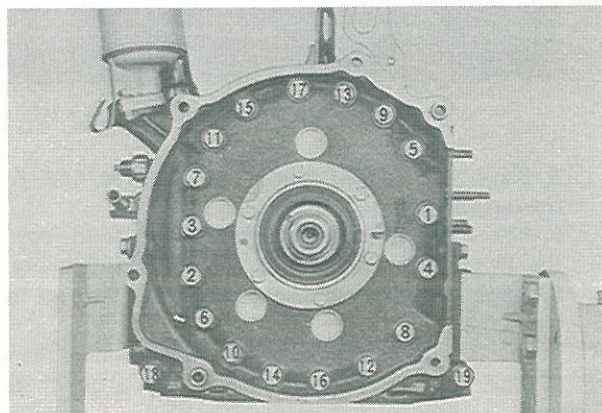

Fig. 1-93 Tightening order
2. Turn the engine on the work stand so that the top of the engine is up, and tighten the bolts gradually in the order shown in Fig. 1-93. The specified torque is 3.0 m-k_g (22 ft-lb). Do not tighten the tension bolts at one time.